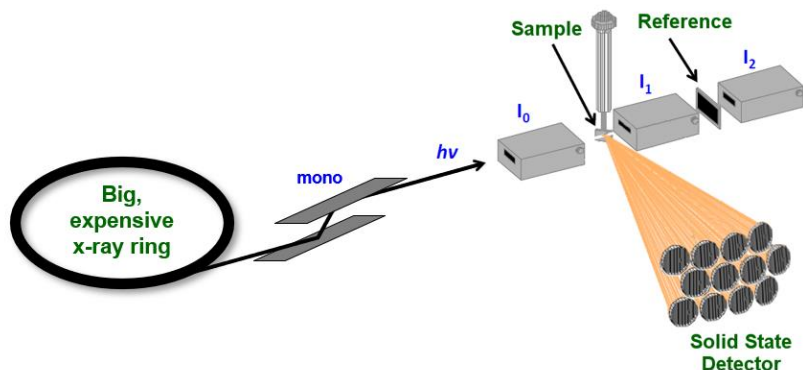

Figure 1-6: Schematic representation of the beamline setup for fluorescence XAS measurements.
- 6) Alright, turning to the data itself, the first few scans are XAS data collected in fluorescence mode using a Vortex solid state detector, which means the beamline was configured similar to the cartoon in figure 1-6. Typical for fluorescence experiments, the Vortex detector was placed near the sample and at 90° relative to the incident beam.